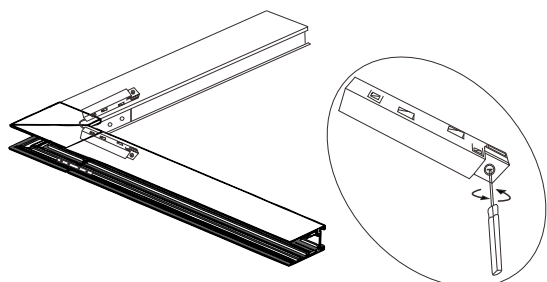

Figure5.4
4. After the inner L-type guide connector is installed, tighten both ends of the safety buckle clockwise with a word screwdriver to ensure complete fastness Load the track and check whether the track is on or not. (Figure 5.4)